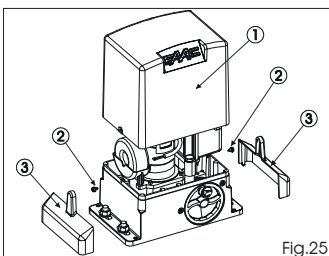
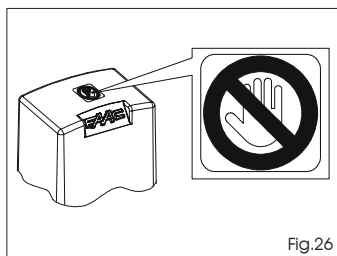

Fig.25
Fig.26
After installing the operator, carefully check operating efficiency of all accessories and safety devices connected to it. Return the board support to its original position. Fit the cover, Fig. 25 ref. 1, and tighten the two side screws provided (Fig. 25 ref 2), and snap-fit the side panels (Fig. 25 ref.3). Apply the danger sticker on the top of the cover (Fig. 26). Hand the "User's Guide" to the Customer and explain correct operation and use of the gearmotor, indicating the potentially dangerous areas of the automated system.